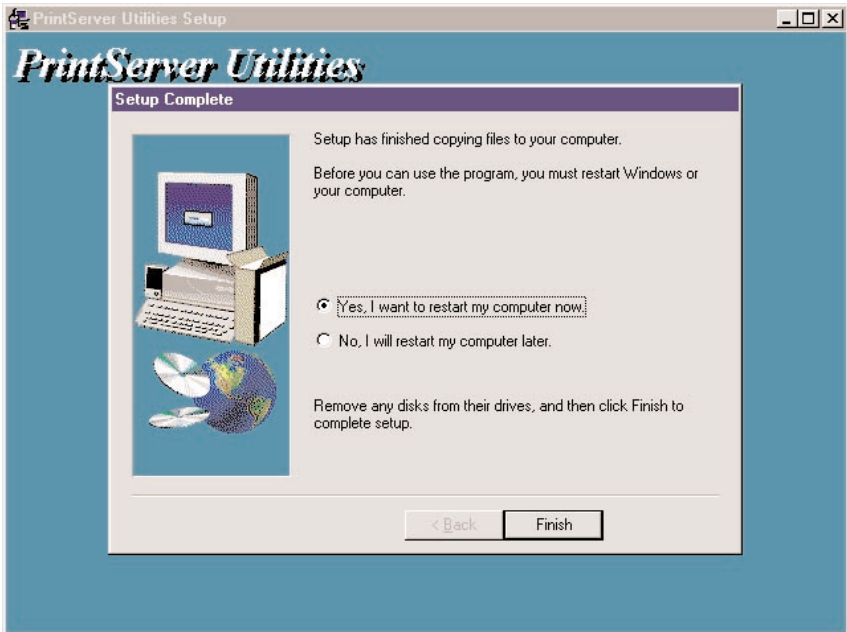

Figure 4-12. Setup Complete window.
13. The Setup Complete window (Figure 4-12) appears; the Administrator Installation procedure is finished. Click on the **Finish** button to restart your computer. Or, click on the **Back** button to go back to the previous screen.